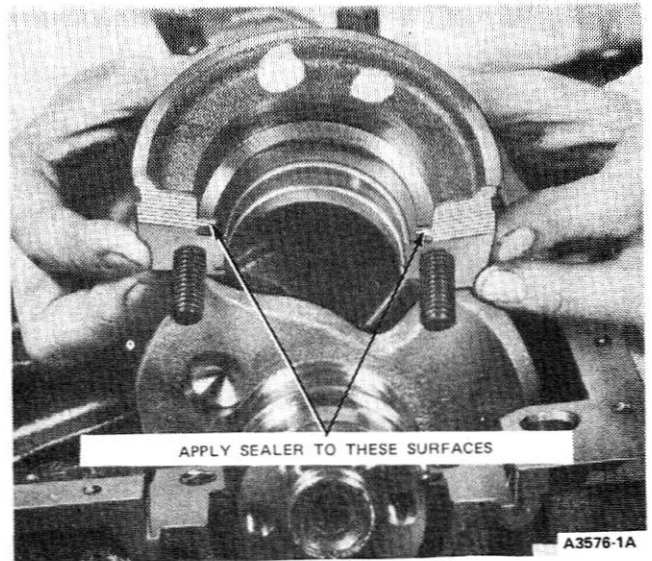
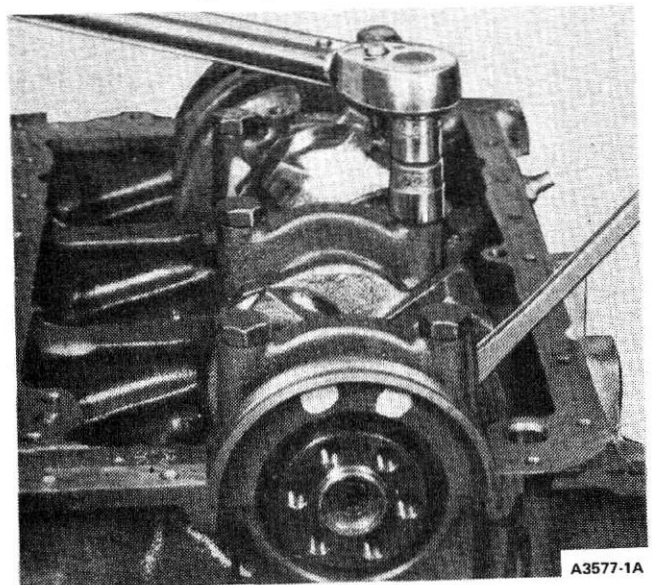

FIG. 36 Sealer Application to Rear Main Bearing Cap
FIG. 37 Aligning Thrust Bearing
5. Install the remaining bearings in the same manner. If servicing the rear main bearing, apply sealer to the cap as shown in Fig. 36. If necessary, align the thrust bearing by loosening the center main bearing cap bolts, prying the crankshaft toward the front, forcing the thrust bearing to the rear and tightening the bolts to specifications (Fig. 37).